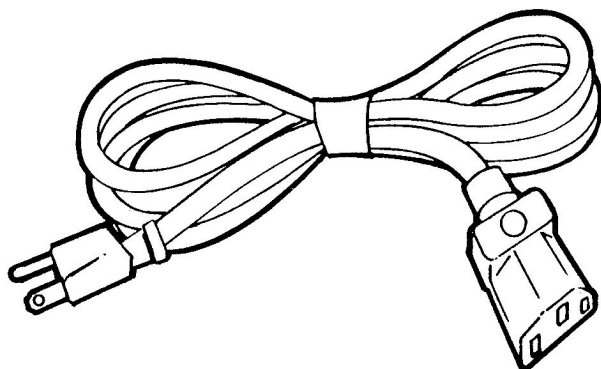

Fig. 6 Power cord
- The power cord, depicted in Figure 6.